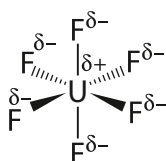

Figure C.41 The structure of UF₆.
Uranium(VI) fluoride (uranium hexafluoride, UF₆) is a white crystalline solid that sublimates at 64 °C. It consists of UF₆ octahedral molecules in the solid and gaseous states (Figure C.41). There are covalent bonds between the uranium atom and the fluorine atoms, and London forces between the molecules in the solid state.